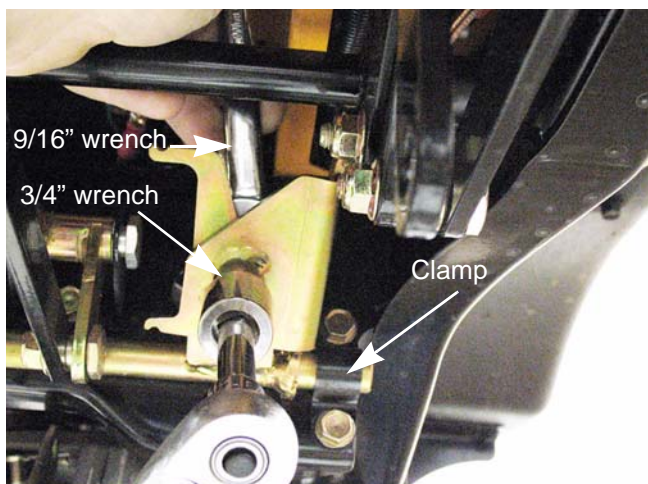

Figure 3.15
8. Remove the nut and shoulder bolt that attaches the brake lever to the brake shaft using a 9/16" wrench and a 3/4" wrench. See Figure 3.15.